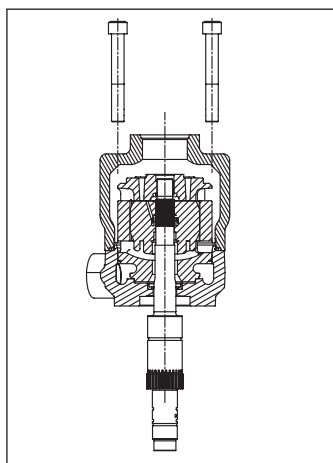

Figure 62
2. Unscrew the 4-Bolts (**Fig. 62**).